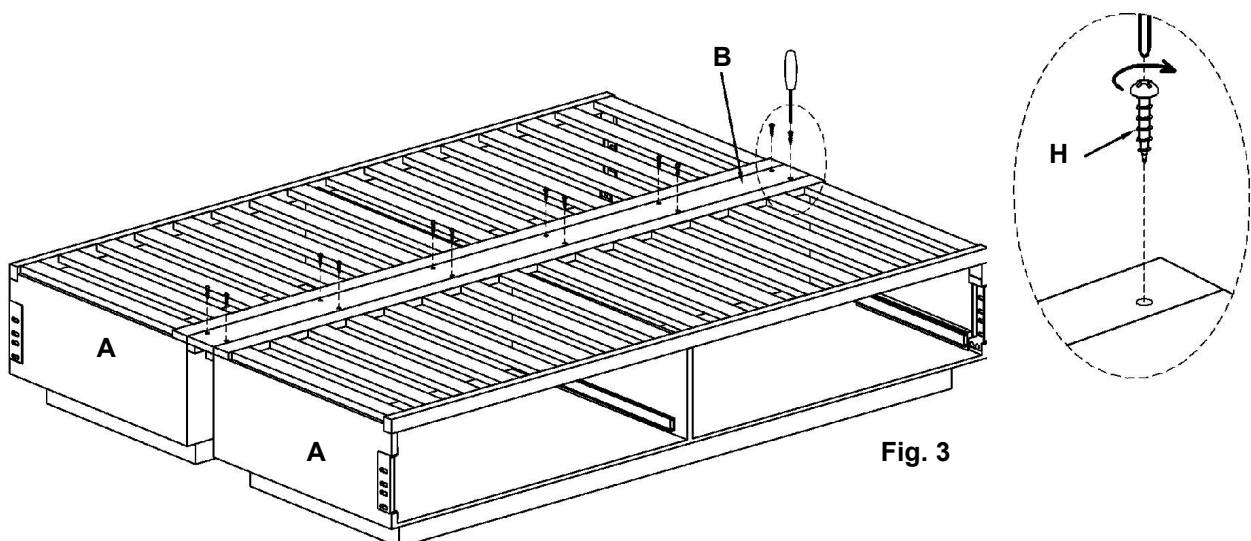

Fig. 3
4. Assemble the Bridge Panel (B) in the middle of the 2 Storage Side Frames (A).
5. Using the Philips Head Screwdriver (not included), insert 12 Assembling Screws (H) through the pre-drilled holes of the Bridge Panel (B). See **Fig. 3**.